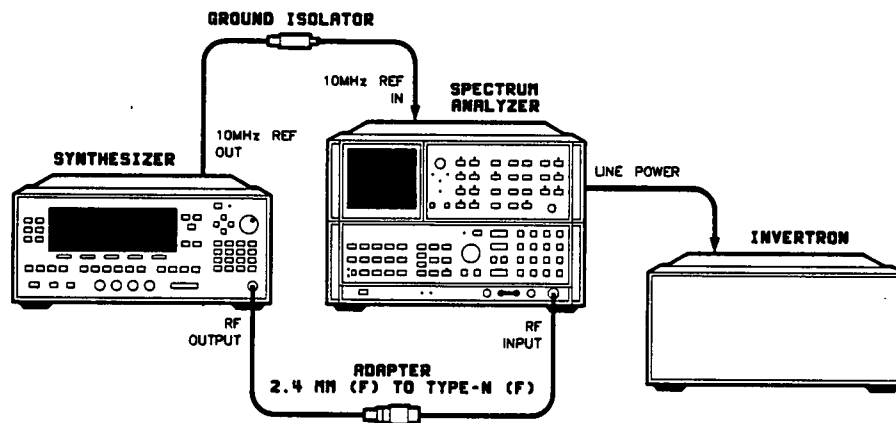

Figure 2-12. Spurious signals (Line-Related) Test Setup
2. Connect the equipment as shown in figure 2-12. Preset the instruments and let them warm up for at least one hour.